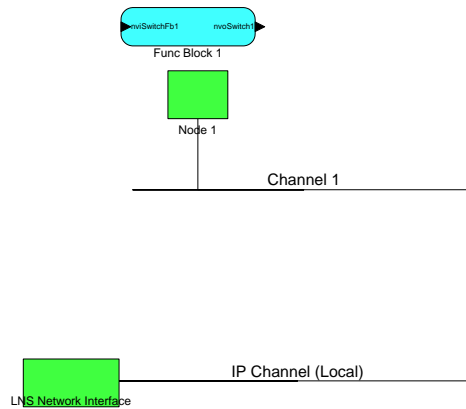

Figure 82: Move the LNS Network Interface to the newly created IP Channel.
7. If the L-IP is used as a CEA-709 configured router one should add the L-IP in the LonMaker drawing. Create a new Channel with channel type IP-10L in an Intranet or IP-10W in an Internet environment. Move the LNS Network Interface to this newly created IP channel as shown in Figure 82 by selecting the LNS Network Interface and choosing “Change Channel” from the context menu.